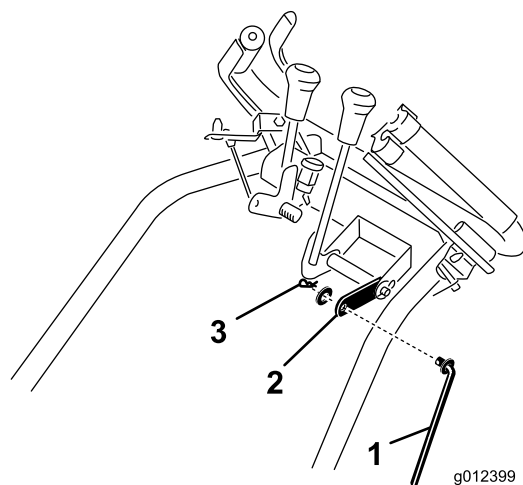

Figure 5
5. Insert the upper end of the shift rod into the hole in the shift linkage (Figure 5). Secure the rod end to the linkage with the washer and hairpin cotter previously removed.